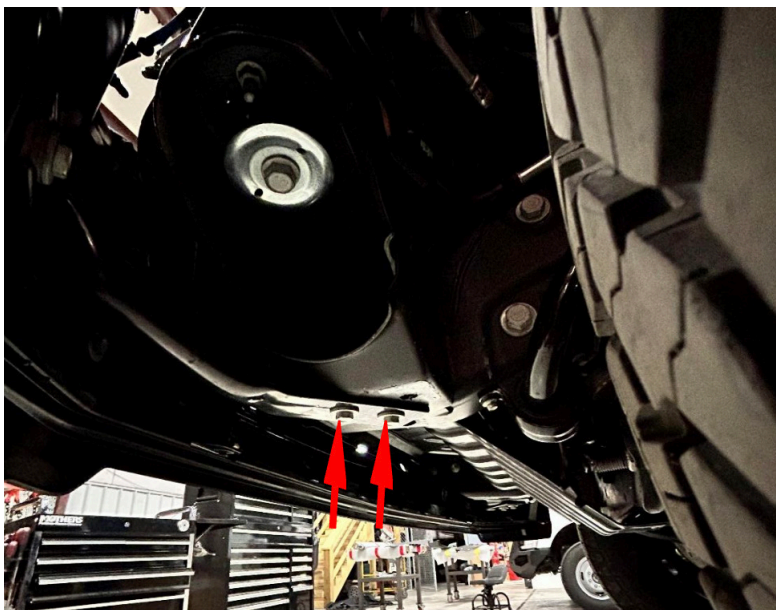

Figure 12
11. Using a 15mm socket wrench, remove two (2) bolts in each of the two (2) bumper reinforcement brackets from the frame. Figure 12